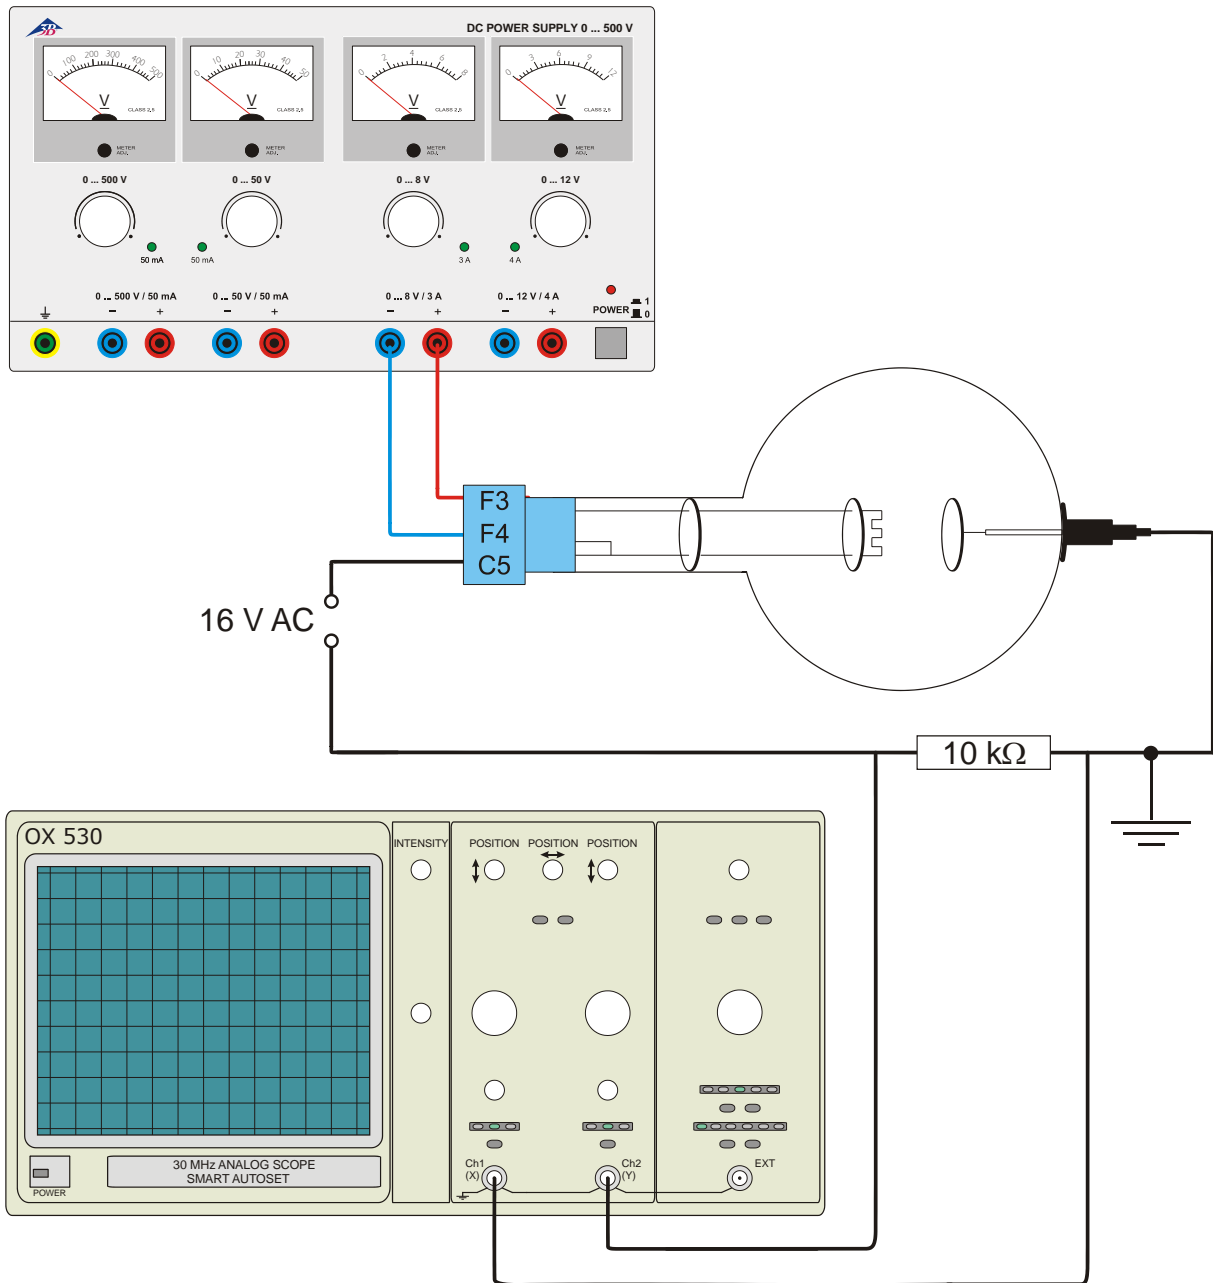

Fig. 3 Diode rectifier
- Set up the circuit as in Fig. 3 with $U_F = 6.3$ V and $U_A = 16$ V AC.